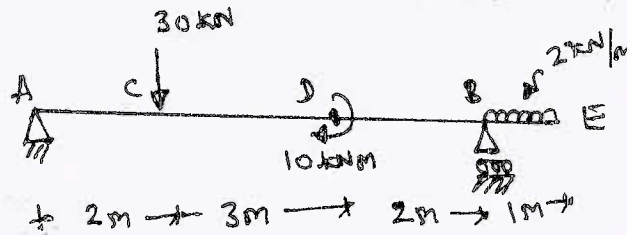

Fig.Q4(b)
- b. Draw SFD and BMD for the beam shown in Fig.Q4(b) showing salient features.